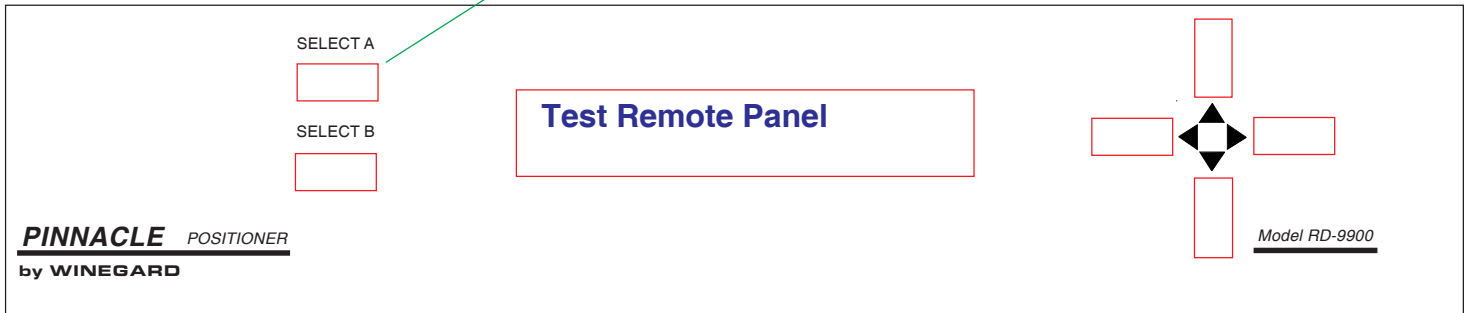
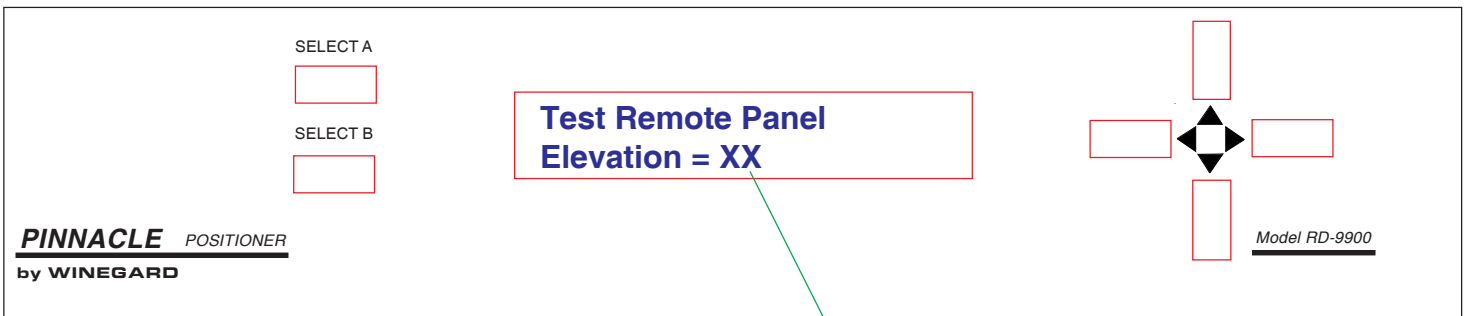

Figure 12
Figure 13
8. Press [SELECT A] Test Remote Panel, see Figure 12. The positioner will read the elevation from the remote panel. See Figure 13; verify that elevation is same as on remote panel.